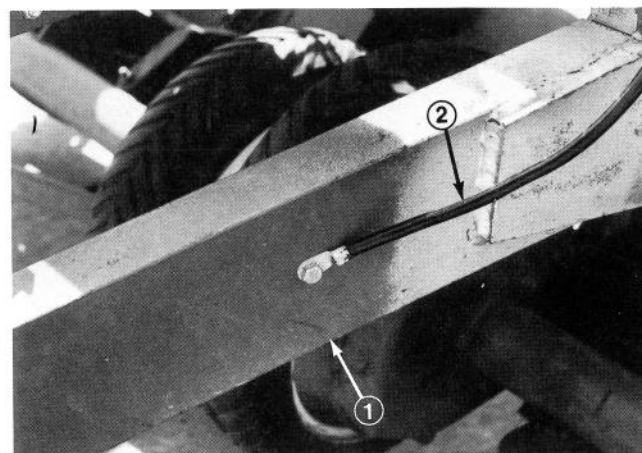

Figure 2
3. Install free end of power pack ground wire to trailer tongue by drilling a .296 (19/64) dia. hole and securing with a 5/16 — 18 x 7/8" thread forming screw and external tooth lockwasher (Fig. 2).